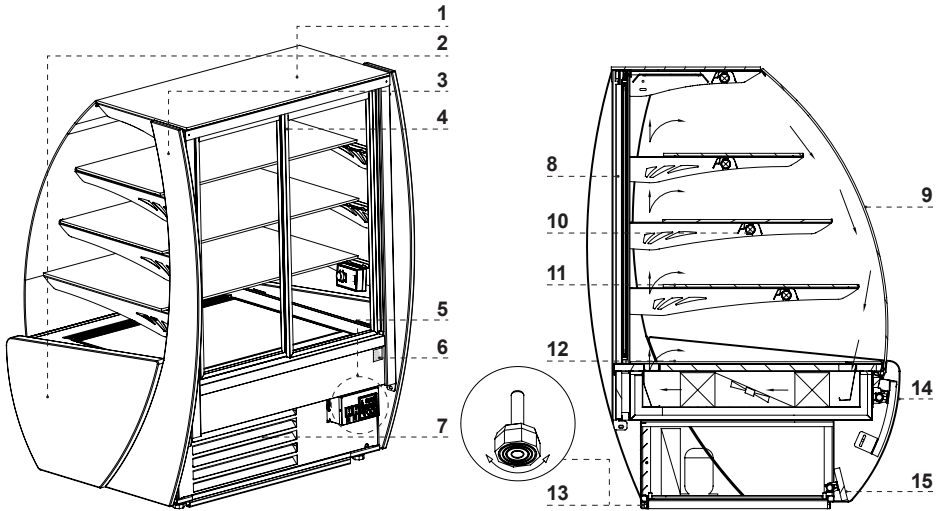

Fig.1 Construction of the unit
- Set the unit on level firm ground, and then adjust the legs Fig.1/13 (p.16)